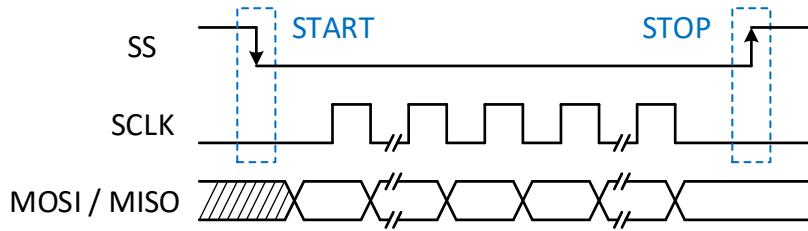

Figure 25. MODE0 timing
- Figure 25 illustrates mode 0. In mode 0, the clock idle state is low, and the first data bit of a transfer is captured (by either the host or target) on the first clock transition of the transfer.